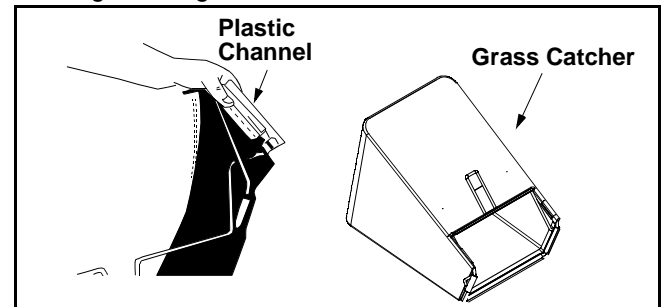

Figure 8
- All the plastic channels attach from the outside of bag. See Figure 8 .